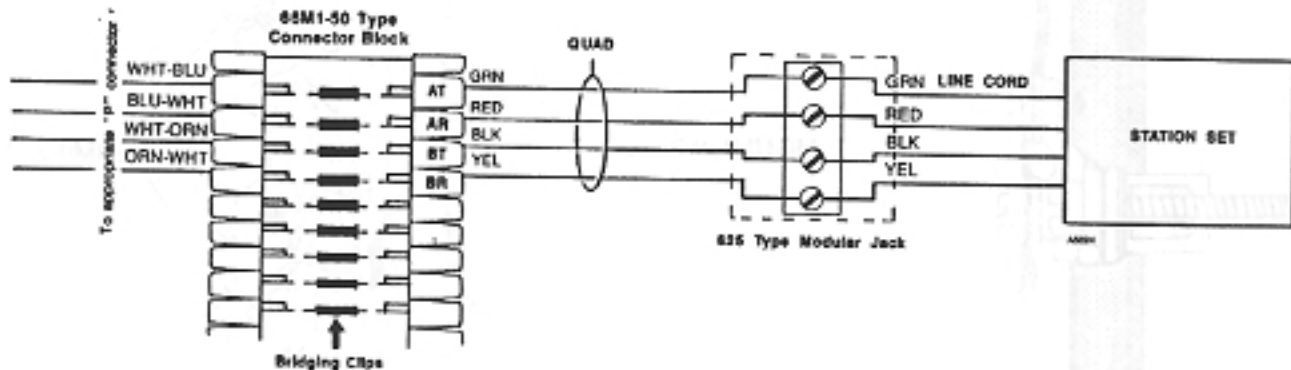

Figure 5-7 TYPICAL STATION CABLING
4.03 Punchdown each station cable at the connecting blocks (Figure 5-7) according to Tables 5-3 and 5-4 as follows: